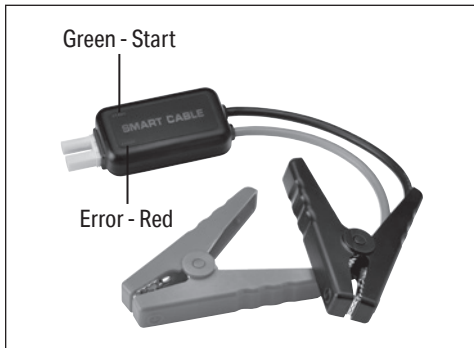

Fig. 2
7.1 Jump Starting the Vehicle - Fig. 2.